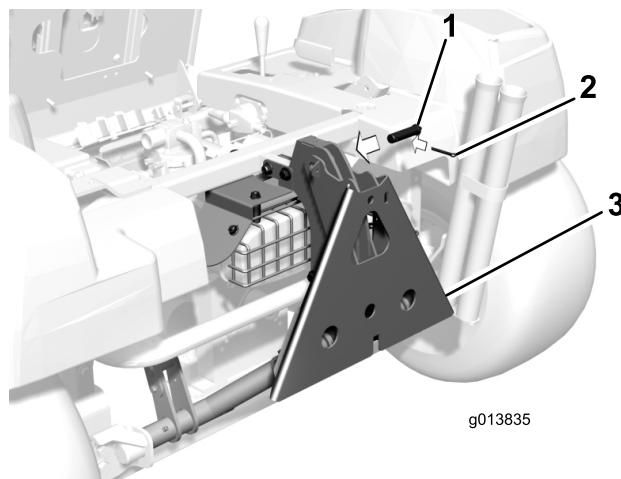

Figure 11
15. Rotate the QAS adapter frame upward and secure it to the roller plate with the clevis pin and cotter pin (Figure 11).